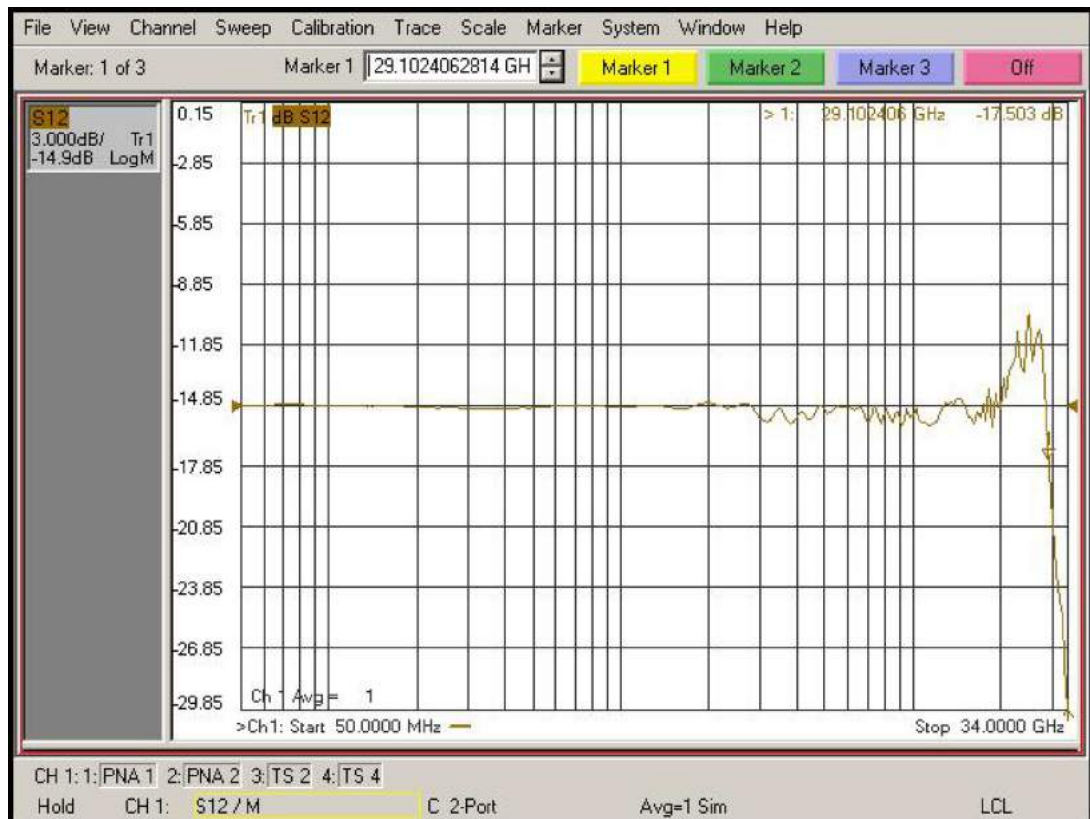

Figure 67 De-embedded “Vout/Vin” response of the probe
- b Again, adjust the “Reference Level” in the scale menu so the 50MHz point is at center screen. The display should look like **Figure 67**.